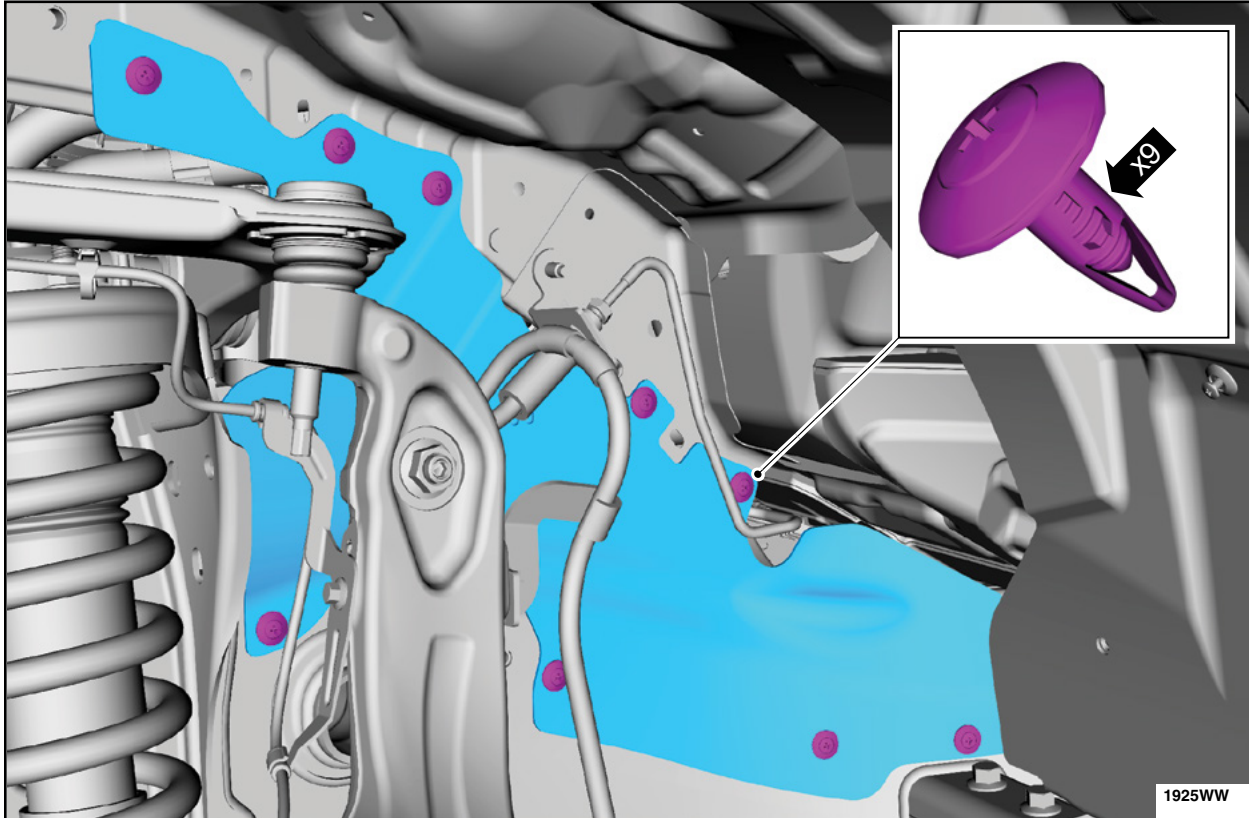

FIGURE 36
39. Remove the pin-type retainers and LH splash shield. See Figure 36.